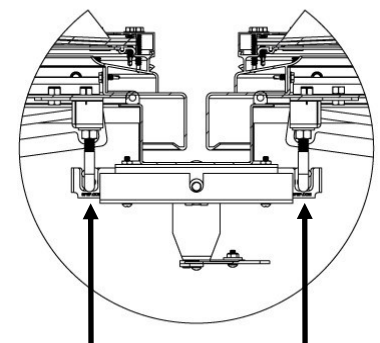

FIG 2. Mounting Bracket Adjustment
9. If necessary, adjust the catch strike for each door to ensure full latch engagement when the door is closed by loosening the bolts, relocating the assembly mounting bracket side-to-side, or up-and-down, and then fully tighten. FIG 2.